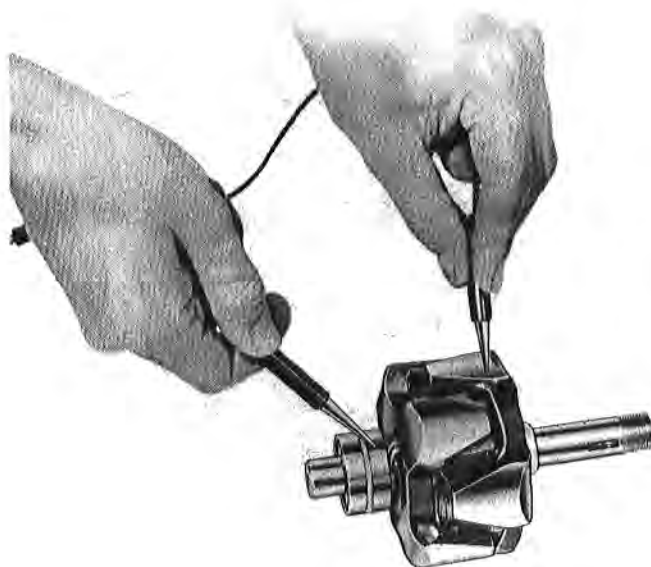

Figure 7
(1) Rotor - The rotor should be tested for a grounded, shorted, or open winding. The ground test can be made with a 110 volt test lamp, an ohmmeter, or any type of continuity tester. (Figure 7). There must not be any continuity from the slip rings to the rotor shaft or poles.